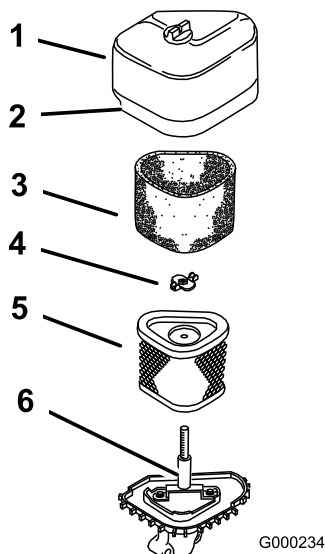

Figure 24
3. Clean around the air cleaner to prevent dirt from getting into the engine and causing damage. Unscrew the knob and remove the air cleaner cover (Figure 24).
4. Remove the wing nut and slide the foam and paper air cleaner assembly off of the stud (Figure 24).
5. Carefully remove the foam element from the paper element (Figure 24).
1. Carefully slide the foam element onto the paper air cleaner element (Figure 24).
2. Place the air cleaner assembly onto the air cleaner base and secure it with the wing nut (Figure 24).
3. Install the air cleaner cover and secure it with the knob (Figure 24).